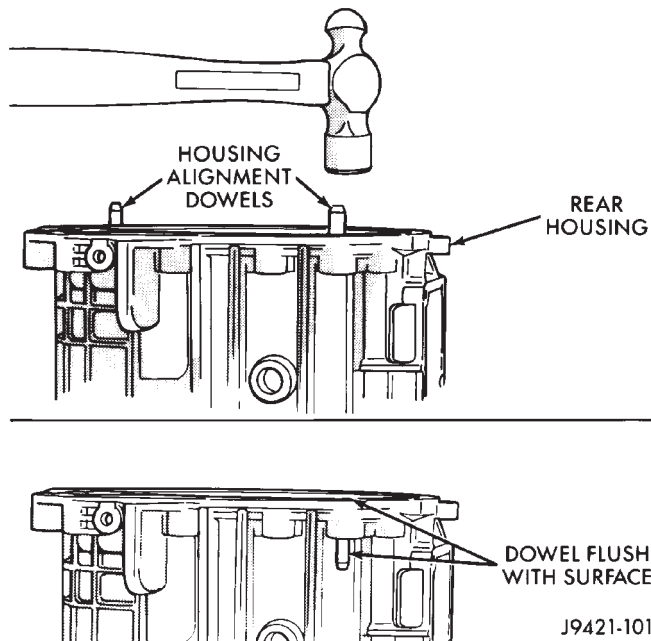

Fig. 94 Preparing Rear Housing Dowels For Installation
(1) Drive adapter housing alignment dowels back into housing until dowels are flush with mounting surface (Fig. 94).